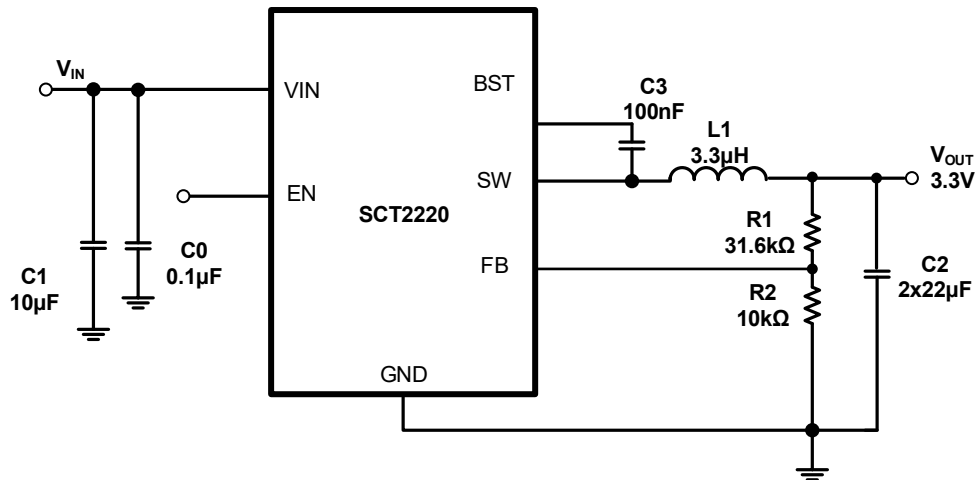

Figure 8. 12V Input, 3.3V/2A Output
The SCT2220 features external programmable output voltage by using a resistor divider network R1 and R2 as shown in the typical application circuit Figure 8. Use equation (8) to calculate the resistor divider values.